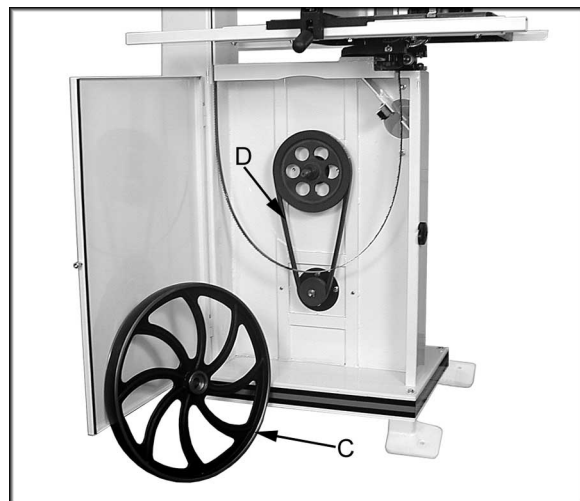

Figure 21
5. Remove the wheel (C, Figure 21). If the lower wheel does not come off easily you may need to use a pulley puller to remove the lower wheel.
6. Remove the old belt (D, Figure 21) and install the new belt.